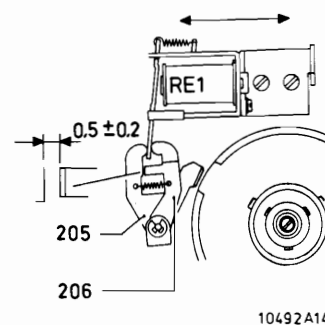

Fig. III-13
- Slide RE1 in the direction of the arrow (see fig. III-13).